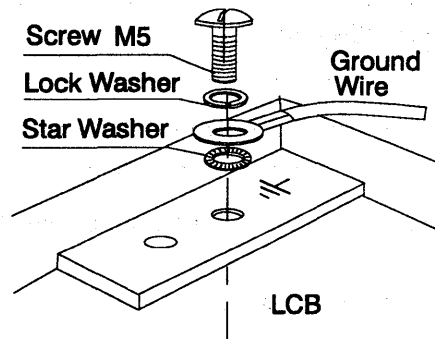

Figure 3-12. Standard Grounding Connection
**Screw:** 5 mm of diameter, length from 6 mm to 10 mm (refer to Figure 3-12 on page 3-17).